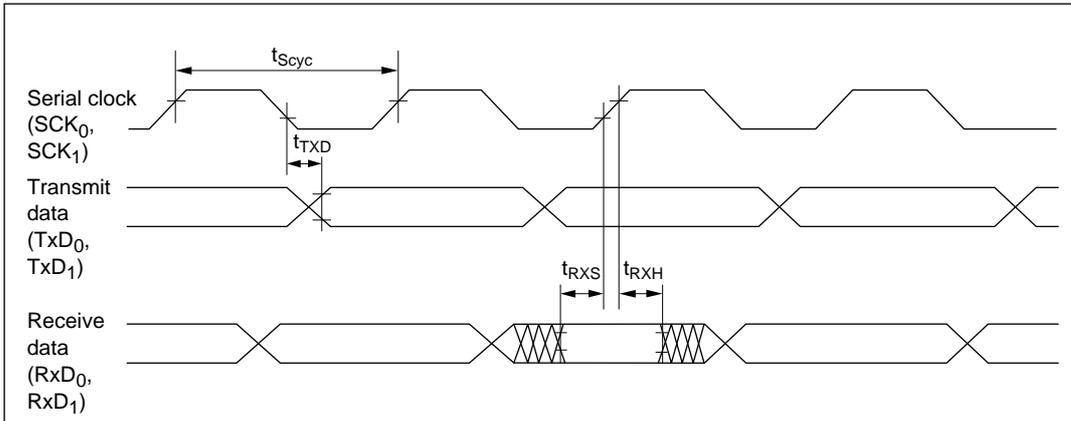

Figure 20-16 SCI Input/Output Timing (Synchronous Mode)
20.3.6 SCI Timing	Figures 20-16 to 20-17